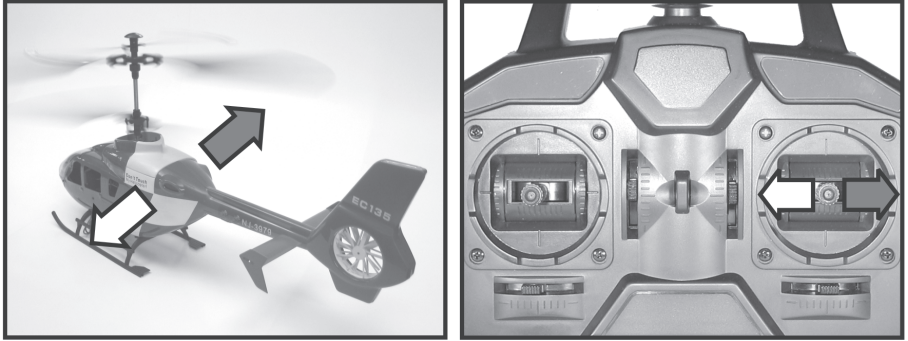

Figure 11
The roll function allows you to move your model helicopter sideways to the right and to the left (see figure 11). For control, use the right control lever (also see figure 1, item 3).